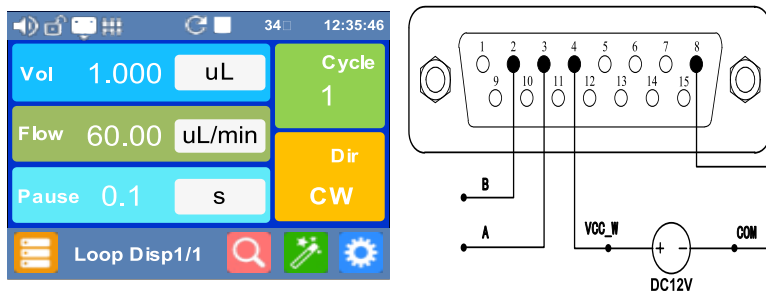

Figure 51: Copy allocation interface
- ◆ In the pump power off state, connect the circuit according to figure 50 or figure 51, and connect the DB15 interface to the back interface of the pump.